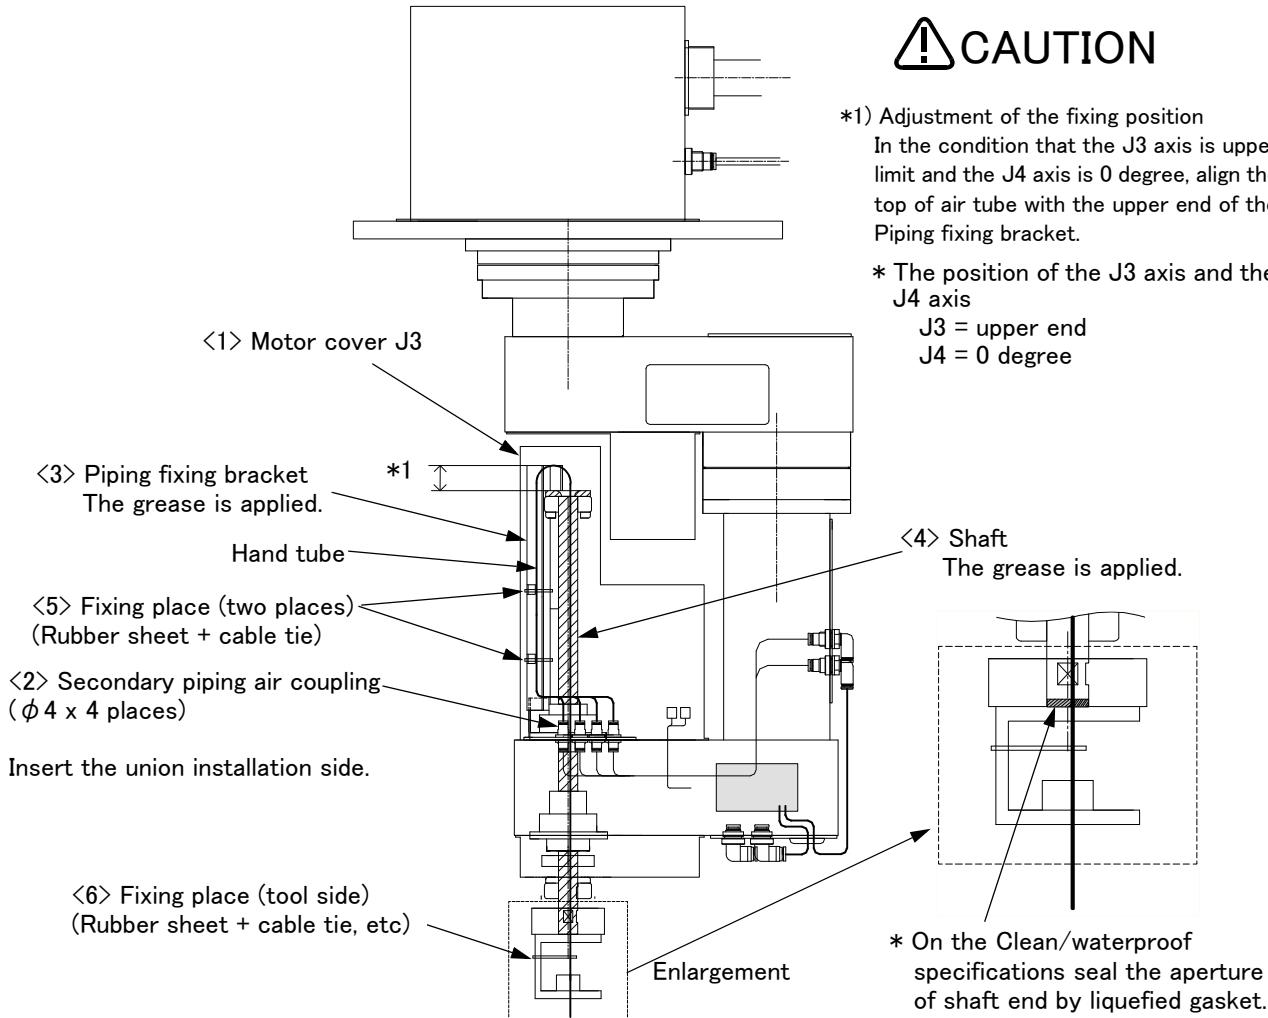

Fig.3-7 : Installation of the hand tube
- 1) To protect the fixing place of the hand input cable, roll the attached rubber sheet. Roll the rubber sheet with referring to Page 68, "Fig.3-7 : Installation of the hand tube". If using the hand tube, roll together.